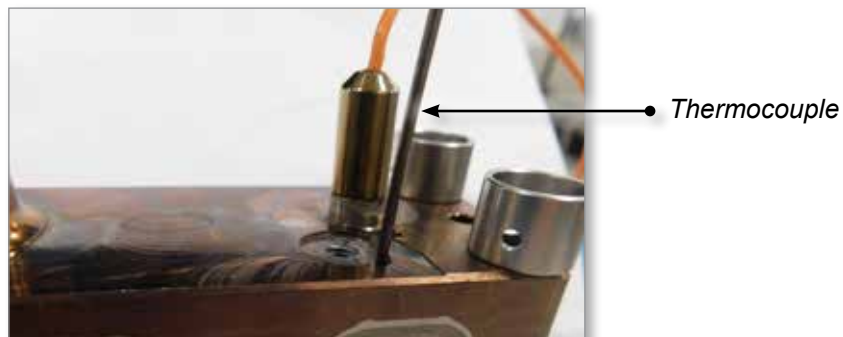

Figure 19-12 Insert thermocouple tip
1. Insert the thermocouple tip into the thermocouple hole. See Figure 19-12.